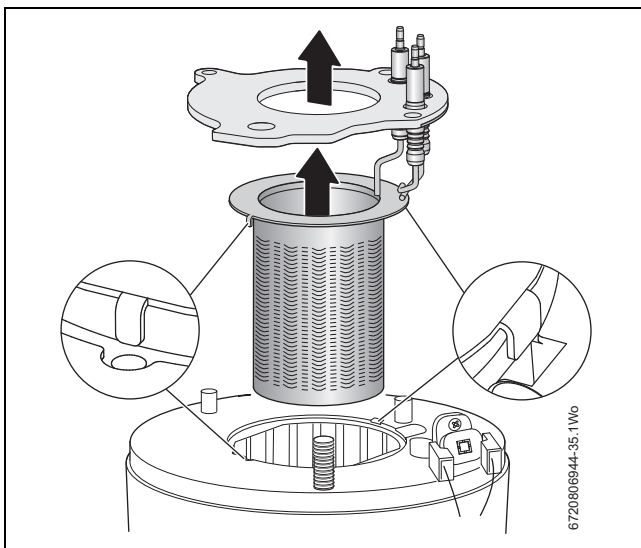

Fig. 79 Burner removal
- ▶ Refer to figure 79 when re-fitting the burner to ensure that it fits centrally within the heat exchanger and location tabs are situated in location holes.
Refer to figure 79
- Replace burner in correct position, ensure that burner tabs shown in figure 79, fit correctly in their respective locations.